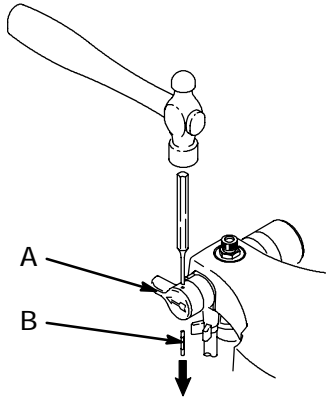

Fig. 1
- Turn Spray-Prime/Drain knob (A) down (Prime/Drain position).
2. Fig. 1. Turn knob (A) up to Spray position.
3. Remove pin (B) with 3/32 pin punch and hammer.